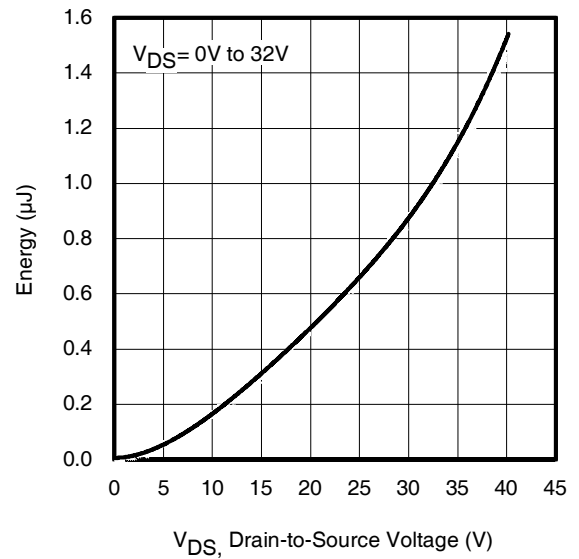

Fig 12. Typical C_{OSS} Stored Energy
| $C_{oss\text{ eff. (ER)}}$ | Effective Output Capacitance (Energy Related) | — | 1880 | — | | $V_{GS} = 0V, V_{DS} = 0V\text{ to }32V$ ⑦, See Fig. 12 |